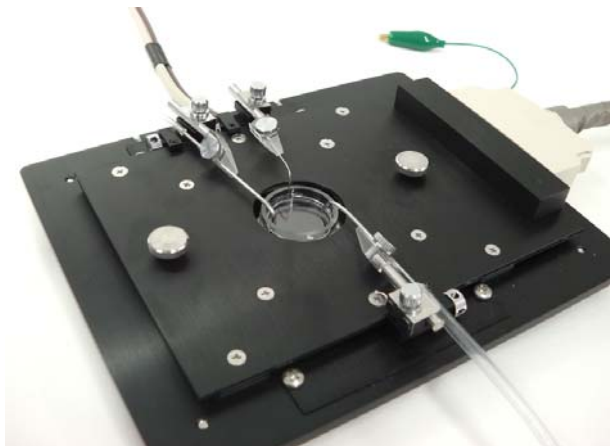

Figure 22. Perfusion Pipe Holder Kit installed to the MED Heated Connector.
7. Figure 22. shows Perfusion Pipe Holder Kit with Inlet and Outlet Pipes installed appropriately.